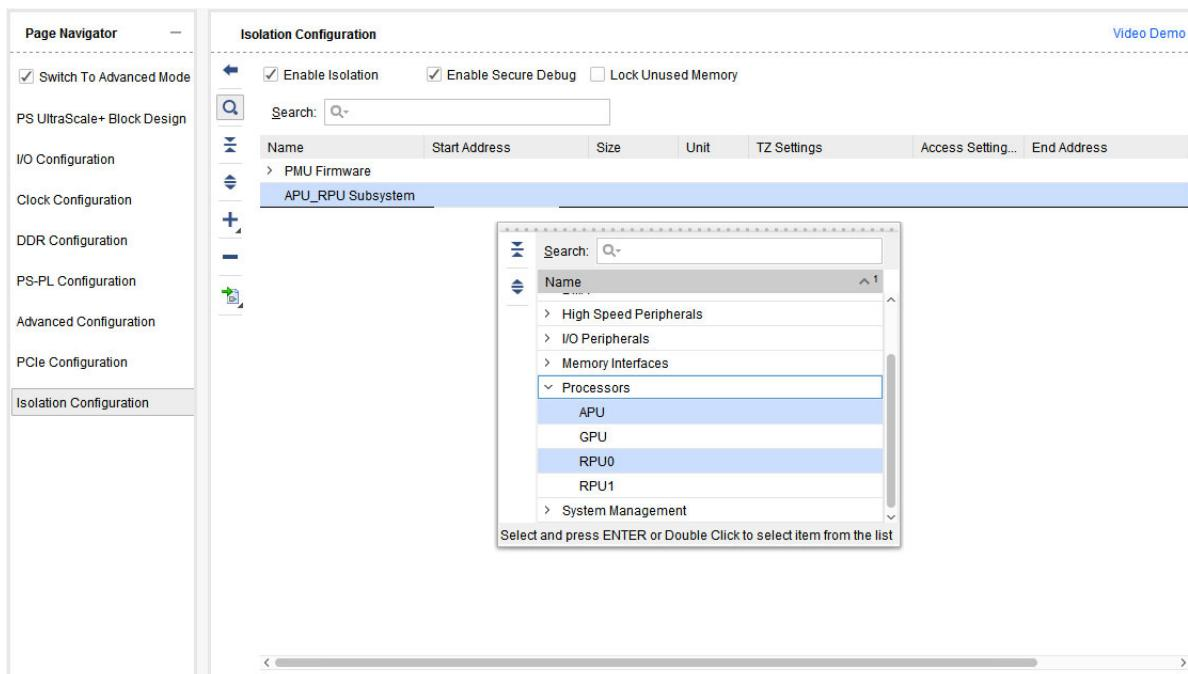

Figure 4-23: Adding Masters
- Right-click **APU_RPU Subsystem** and then click **Add Master**. Select **APU,RPU0** from processors category as shown in Figure 4-23.